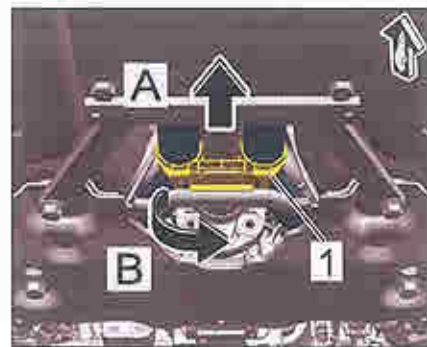

Figure 1
- 3.1 Pull holder ⇒ *Figure 1 -1-* off the transmission bracket in direction of travel ⇒ *Figure 1 -arrow A-*.
- 3.2 Unclip holder by pulling it downwards out of the coolant pipe on the right in direction of travel ⇒ *Figure 1 -arrow B-*.